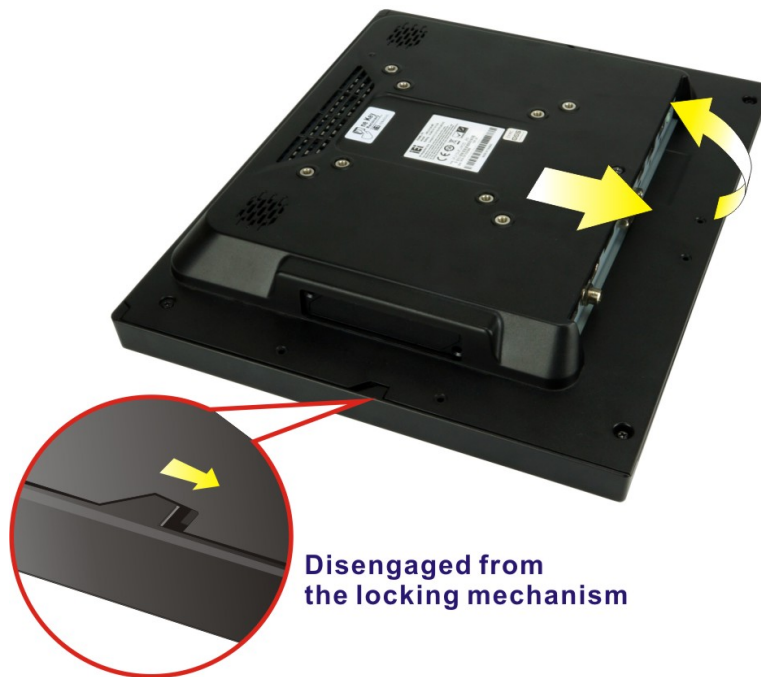

Figure 3-4: Remove the Back Cover
Step 2: Slide the back cover toward the I/O panel until it is disengaged from the locking mechanism. Then, lift the back cover off the chassis. See **Figure 3-4**.